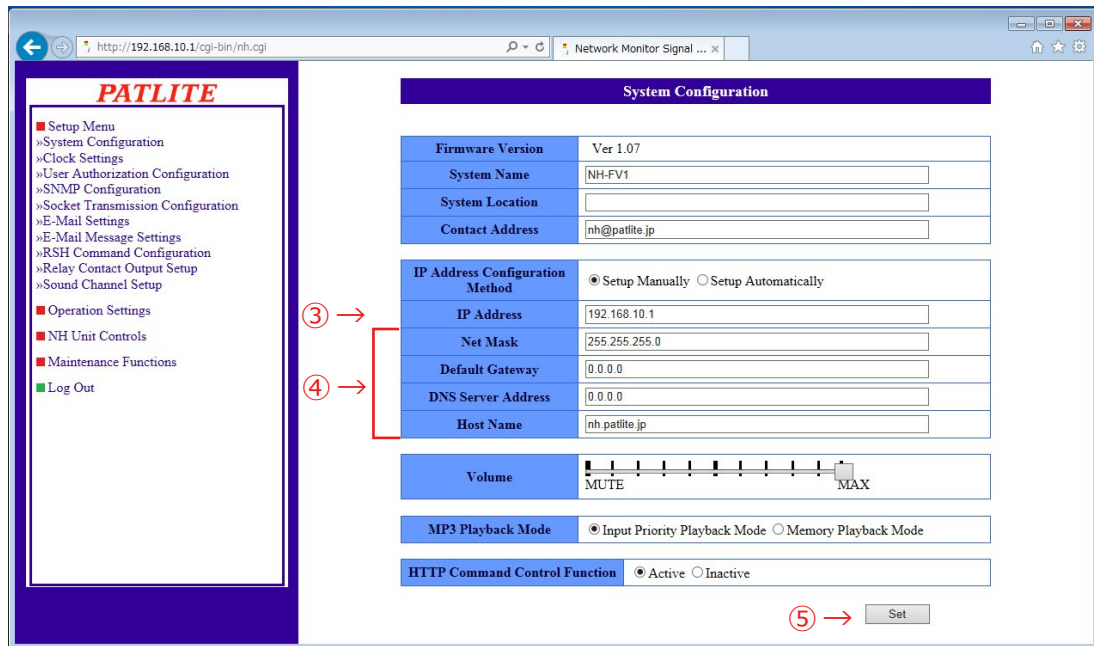

Figure 2.7.2-2 System Setup Screen
- ⑥ . In order to activate the setting parameters, click the "Network Reboot" button. (Refer to "Figure 2.7.2-3")